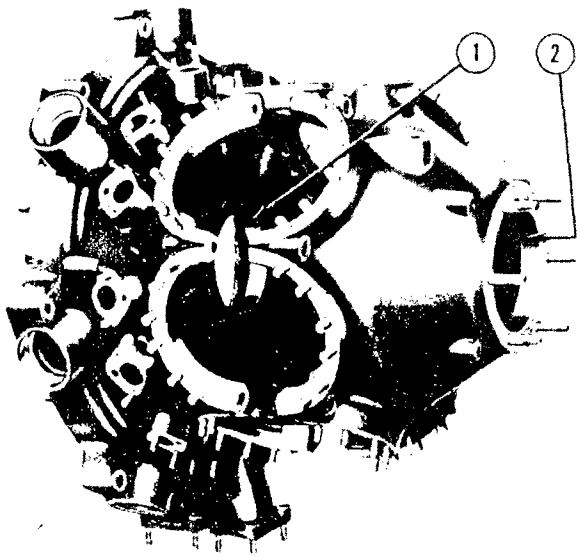

Figure 14 — Crankcase Sections Showing Pressed-in Bronze Main Bearing Liners, Cage and Thrust Bearing Recess
(1) The W670-24 is equipped with a crankshaft of a revised design having a spacer on the crankpin and the crankpin end of the master rod is correspondingly narrower. Magnetos with an automatic spark advance are used in place of the manual control spark as on the W670-16 engine.
3. CRANKCASE (See figure 14)